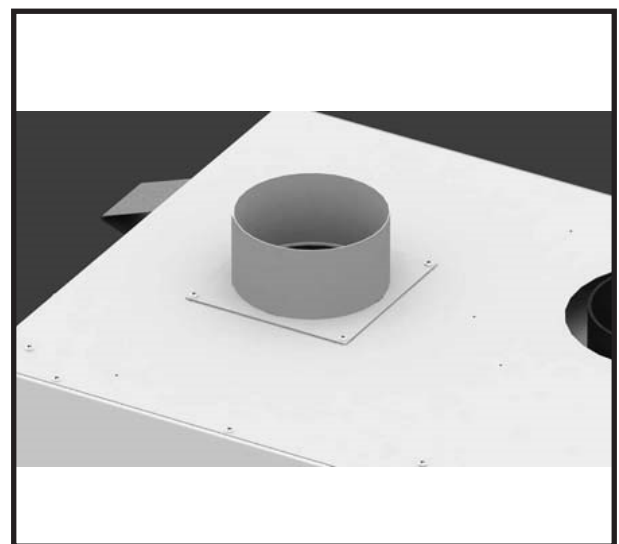

Figure 25: Duct collar.
4. Attach the Duct Adapter to the top of the fireplace over top of the Backflow Damper (Figure 25). Using 4 screws secure both pieces to the Fireplace's outer casing.